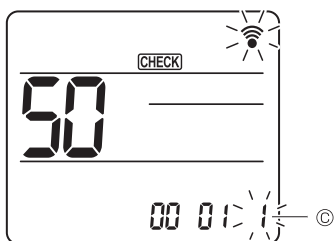

Fig. 4
Use the **[DOWN]** button to change the Setting number ③. (Fig. 4)